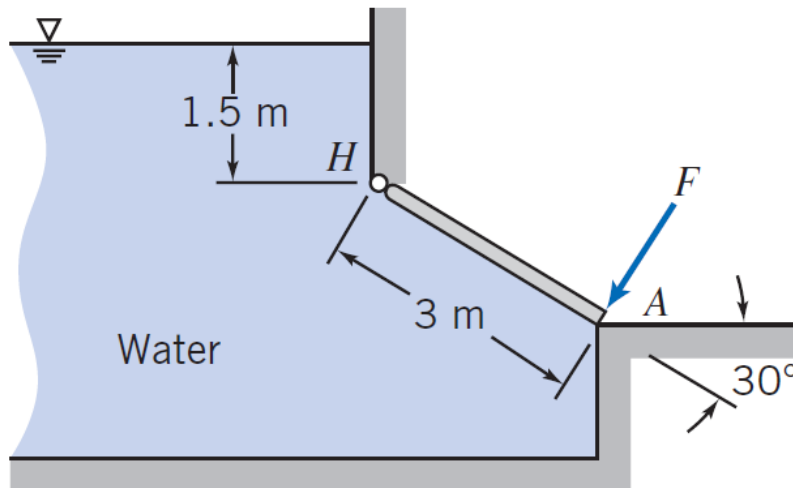

Figure 2
2. The gate shown in Fig. 2 is hinged at  $H$ . The gate is 3-m wide normal to the plane of the diagram. Calculate (a) the hydrostatic force against the gate,  $F_R$ , (b) pressure center,  $y_R$ , and (c) the force  $F$  required at  $A$  to hold the gate closed. ( $\gamma = 9.8 \text{ kN}/\text{m}^3$  for water)